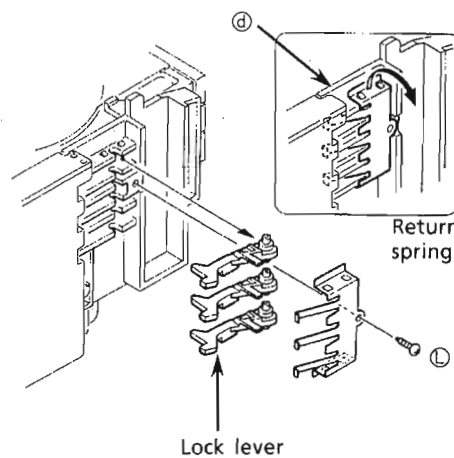
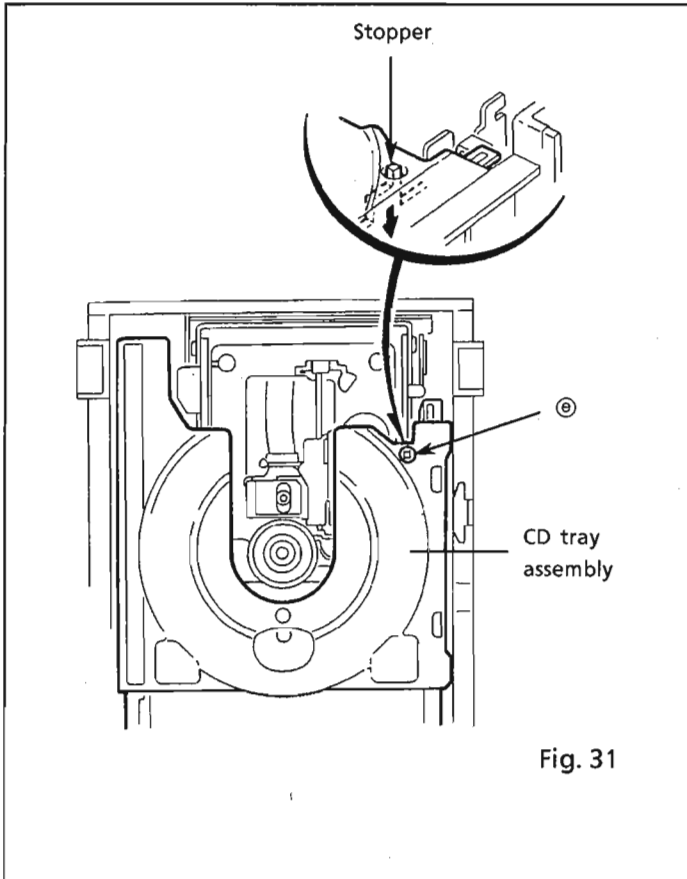

Fig.30
Fig. 31
7. Remove a screw ⑦ which secures the return spring and lock levers from the chassis ass'y.(See Fig. 30.)
8. Remove 2 palls ⑧ which slightly secure the return spring to remove it.
10. Check that the lifter unit stopper is inserted into hole ⑨ located on CD tray ass'y. (See Fig. 31.)